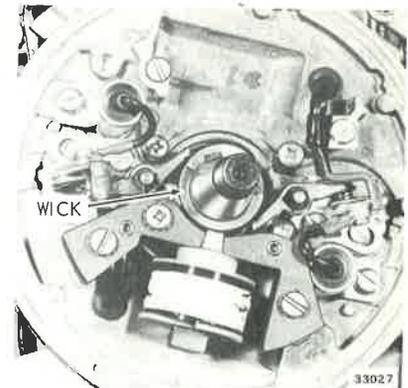

Figure 4-24. Oiler Wick
c. Make sure that a new oiler wick is installed under the drive coil. See Figure 4-24.